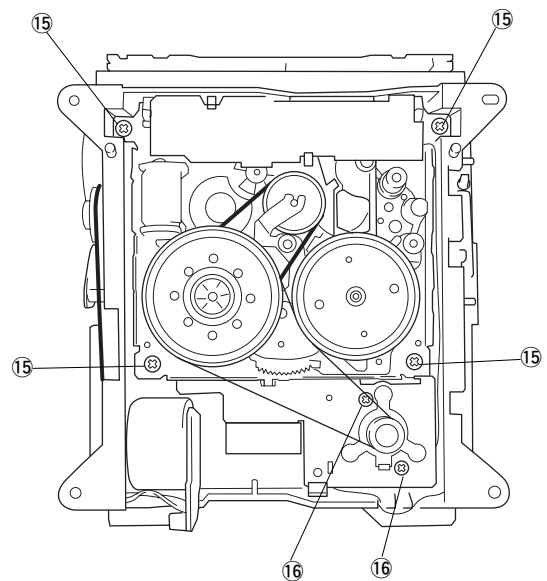

Fig. 13
Remove 4 screws (15) and then pull out the Cassette Mechanism in Fig. 13.
Remove 2 screws (16) in Fig. 13.